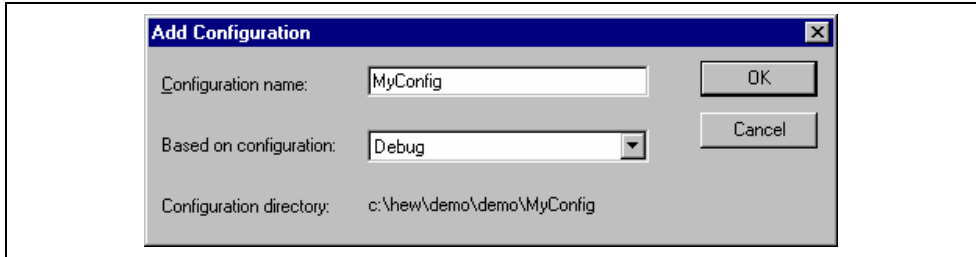

Figure 2.17: Add Configuration Dialog
2. Click the “Add...” button. The “Add Configuration” dialog will be invoked (figure 2.17).